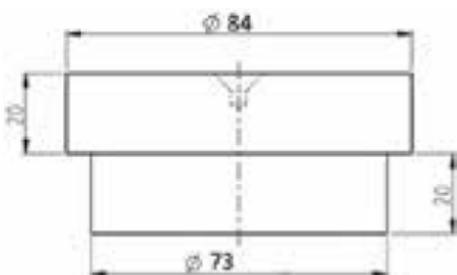

Figure 1
4. Remove the bearing and slingers from the splined sleeve using a split bearing puller or 3 jaw gear puller. **Note: The puller needs to react against the end of the splined sleeve to remove the bearing and slingers. It is recommended that a centering tool be used in the end of the splined sleeve to prevent damage to the sleeve and spline coating. Refer to Figure 1 for dimension details of a recommend design.**